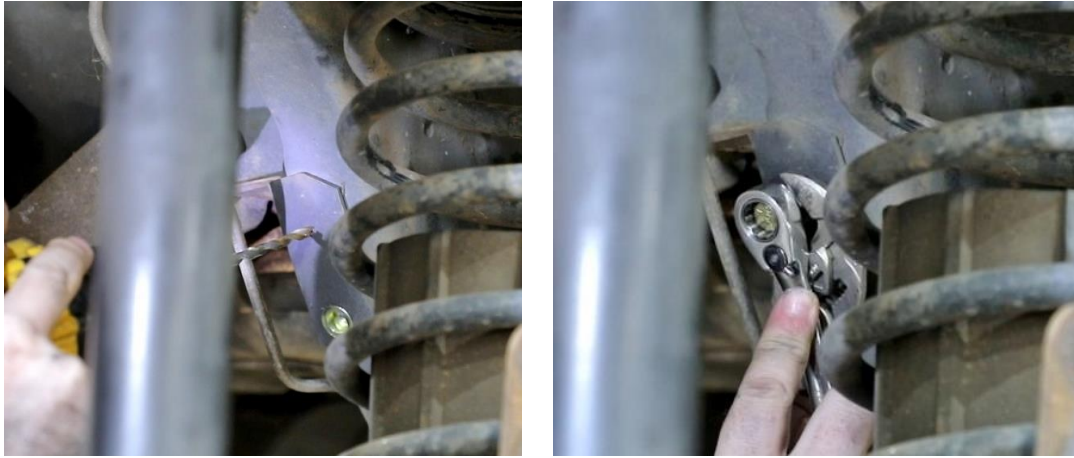

Figure 19 - Install Nut Insert
22. Lower the rear axle and remove the end link bracket. Drill out the top hole on the bottom side of the frame rail to a final drill size using a 17/32" drill bit. **NOTE:** It is recommended that pilot holes be drilled first before drilling the 17/32" holes. Using the nut insert tool, install another nut insert into the 17/32" hole (Figure 19)